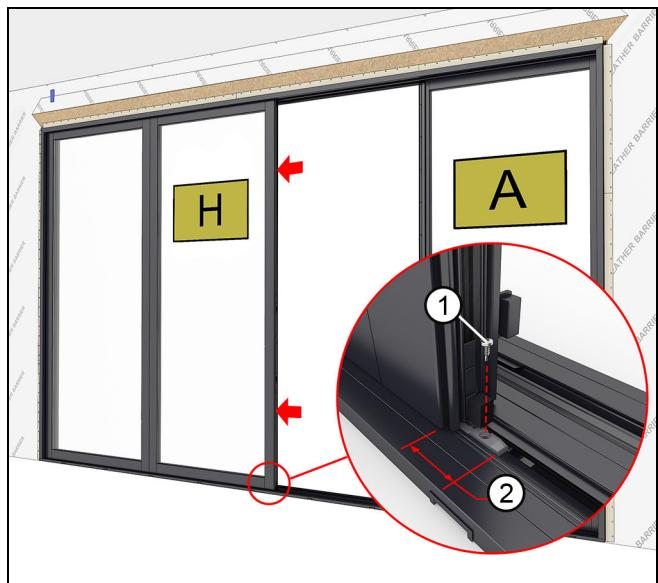

Figure 119 OOOX shown
9. Snap the lower stationary bracket onto sill, then slide underneath the stationary panel until fully seated. The bracket should stick out approximately $2 \frac{1}{4}$ " (57) from panel when fully seated. Fasten with a #8 x 1/2" self drilling screw. See Figure 119.